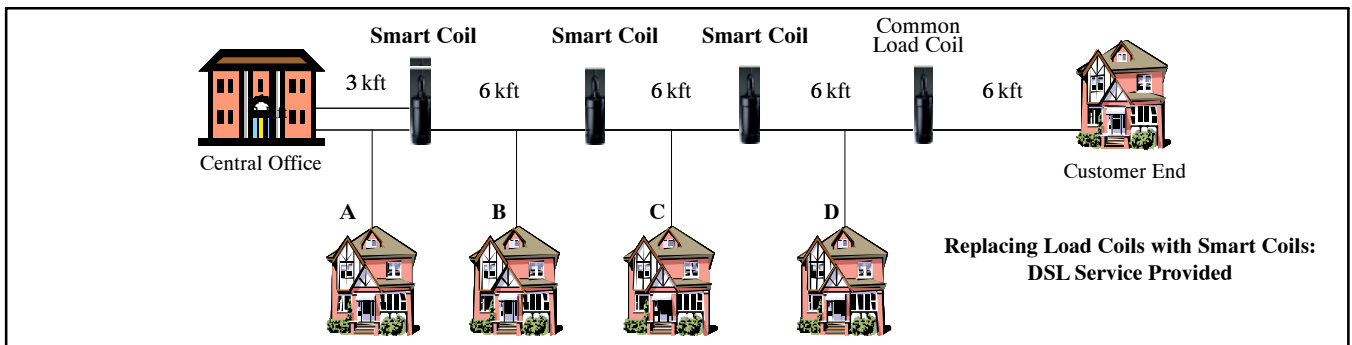

Figure 7. Adding Smart Coils along Span, DSL Enabled
2.4 To provide a high-quality voice service and facilitate DSL deployment, *replace the common load coils with Smart Coils* as shown in Figure 7. The 1st three load coil cases are replaced with Smart Coils. DSL and high quality voice now pass through to all houses within 24 kft from the CO.